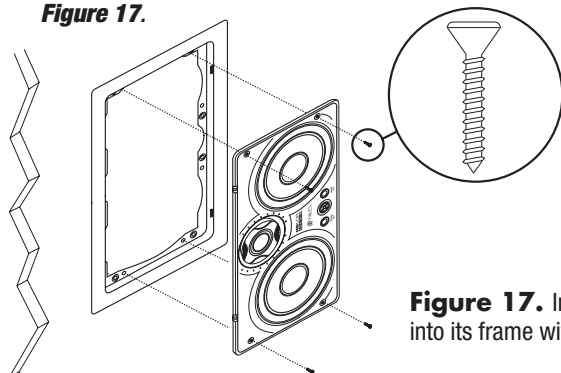

Figure 17. Inserting the speaker baffle into its frame with sheet-metal screws.
- b. *Place the self-tapping sheet-metal screw in the dimple and turn it with a screw-driver until it cuts through the baffle and anchors securely in the frame, as shown in **Figure 17**.*